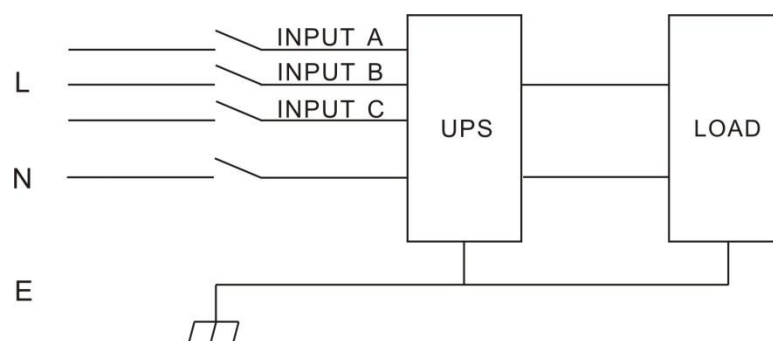
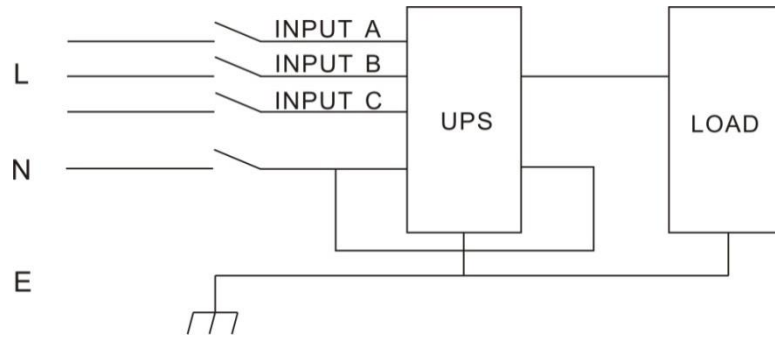

Fig. 4-1 Correct power configuration
Fig. 4-2 Wrong power configuration
- For the safety sake of user and equipments, please be take correct power configuration (Fig. 4-1 and Fig. 4-2).